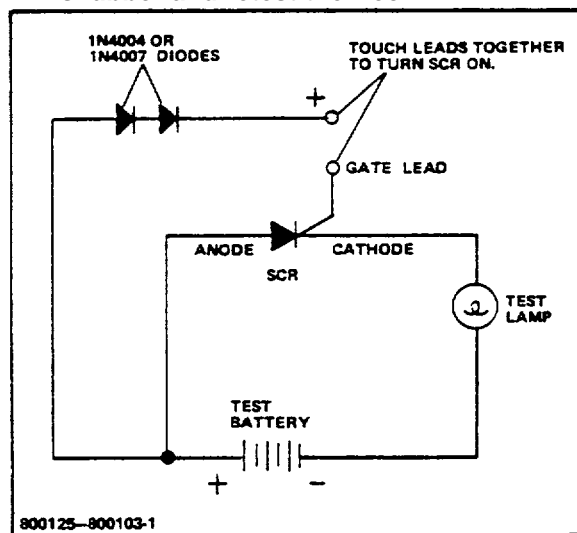
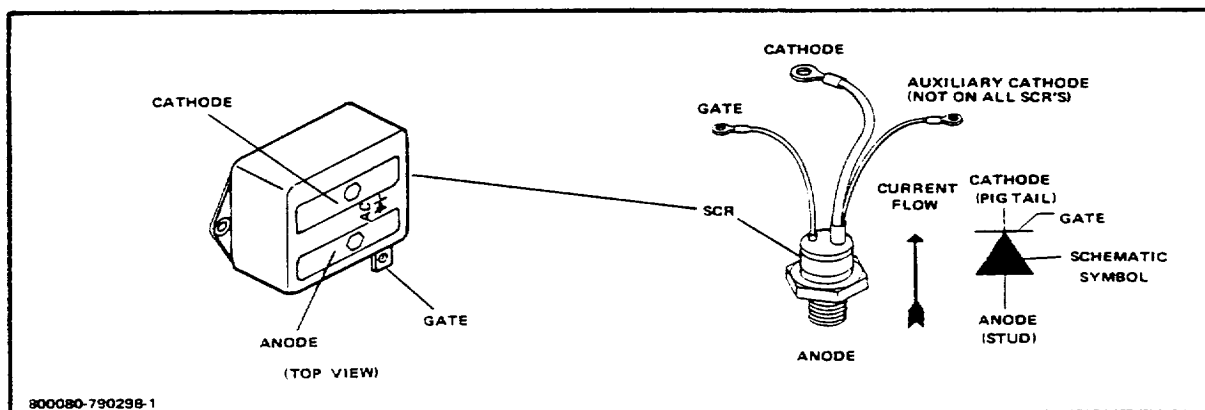

Figure 3-8. SCR Test Schematic
Figure 3-7. SCR Terminals (Typical)
- (4) Each SCR has three terminals: Anode, Cathode, and Gate (Fig 3-7). Connect the test lamp positive lead to the anode pin on TB-2, and the negative lead to the cathode pin on TB-2.
- (5) The lamp must not light. If the lamp lights, the SCR is shorted and must be replaced.
- (6) With the cathode and anode still connected, connect the positive lead through the two diodes to the gate pin on TB-2 (Fig 3-8). The light must turn ON. Remove the positive lead from the gate pin. The light must remain ON.
- (7) If the lamp does not light and remain lit as specified in step 6, replace the SCR.